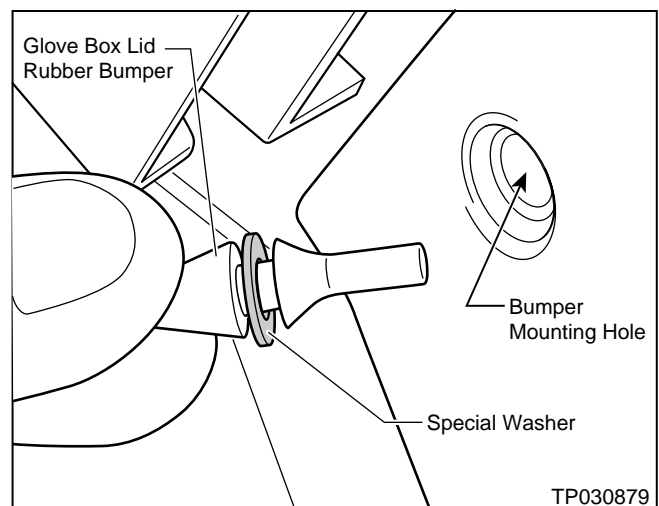

Figure 11
4. Install a special washer on the rubber bumper—P/N 68598-AL500 (see Figure 11).